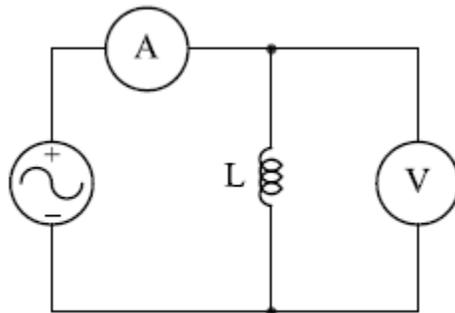

Fig2: experimental circuit of part 2
- 1- Connect the circuit in fig 2